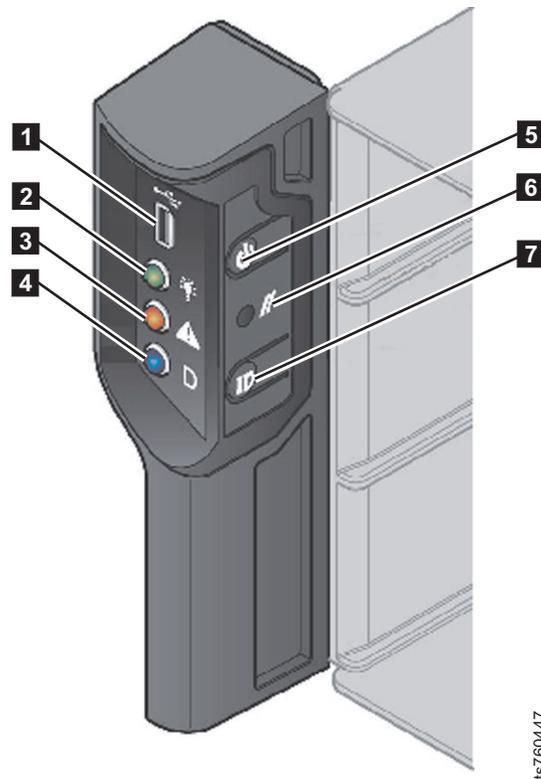

Figure 51. On/Off button
- a. Locate the server's **On/Off** button (**5**) on the side of the server operator panel. See Figure 51 on page 75.